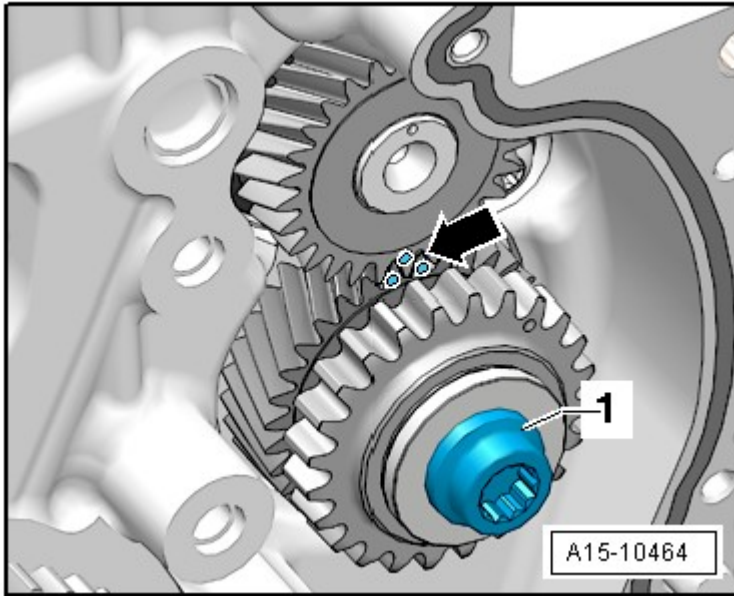

Fig. 12: Identifying Intermediate Shaft Sprocket
- Tightening sequence, refer to **Fig. 12**